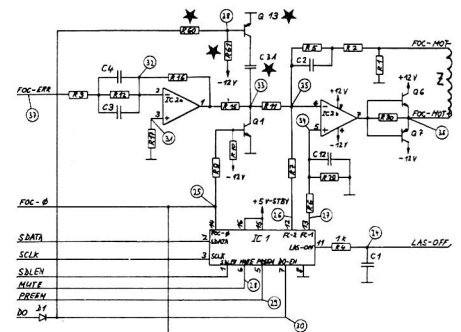

Fig. 3.3 \*not used for 1.769.315
- Modification of 1.769.310 to 1.769.315 is recommended. Only unsoldering of capacitor C 31 is required (Fig. 3.3).